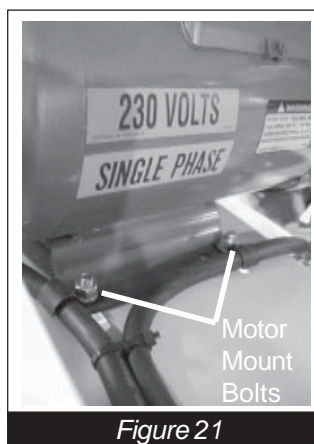

Figure 21
- Loosen motor mounts (4) (Figure 21)